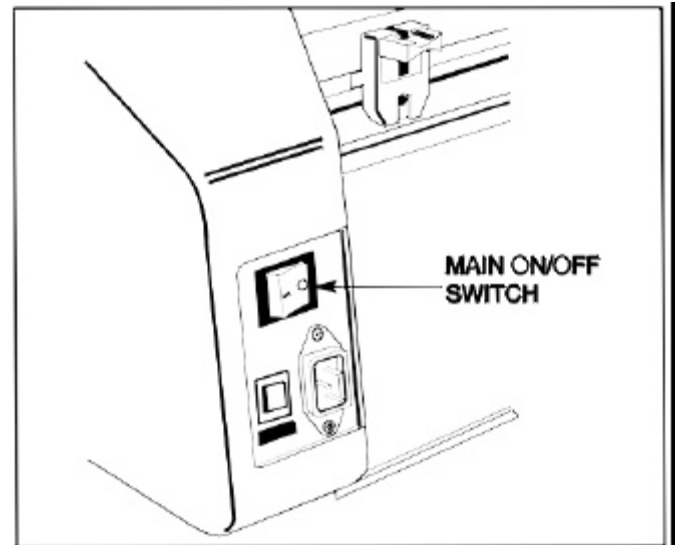

Fig. 9
1. Turn the laminator on (I) at the main power switch located at the back of the machine (Figure 9).